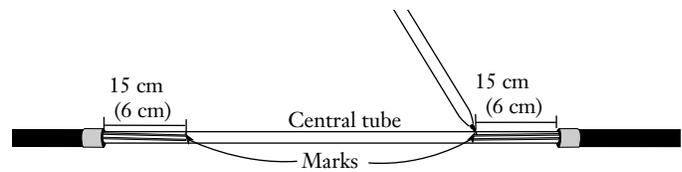

Figure 26
6.16 Place marks 15 cm (6 in.) from the end of each side of the exposed section of central tube with a permanent marking pen (Figure 26). *These access starting and ending mark locations will vary depending on the hardware being utilized.*
- c) Use scissors to carefully cut the tape at the buffer tube ends, making sure not to cut any ribbons (Figure 26).